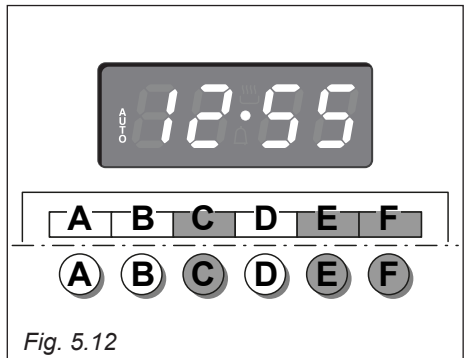

Fig. 5.12
2. Set the end of the cooking time by pressing the "C" button (the cooking time already added to the clock time will appear) and the "F" button (fig. 5.12); if you pass the desired time you may get back by pushing the "E" button.